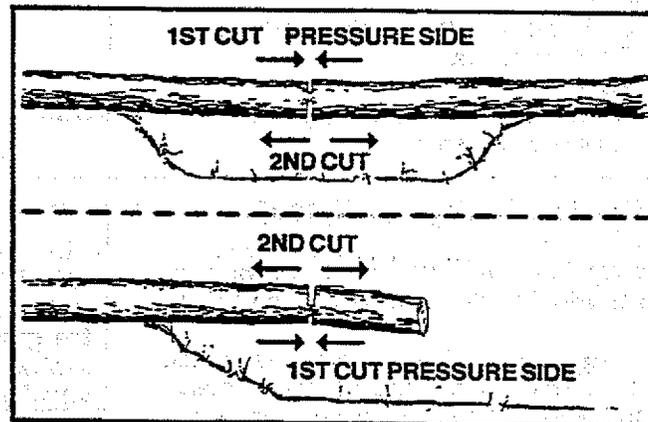

Figure 29
- d. Give special attention to logs under strain to prevent the saw from pinching. Make the first cut on the compression side to relieve the stress on the log. Figure 29.